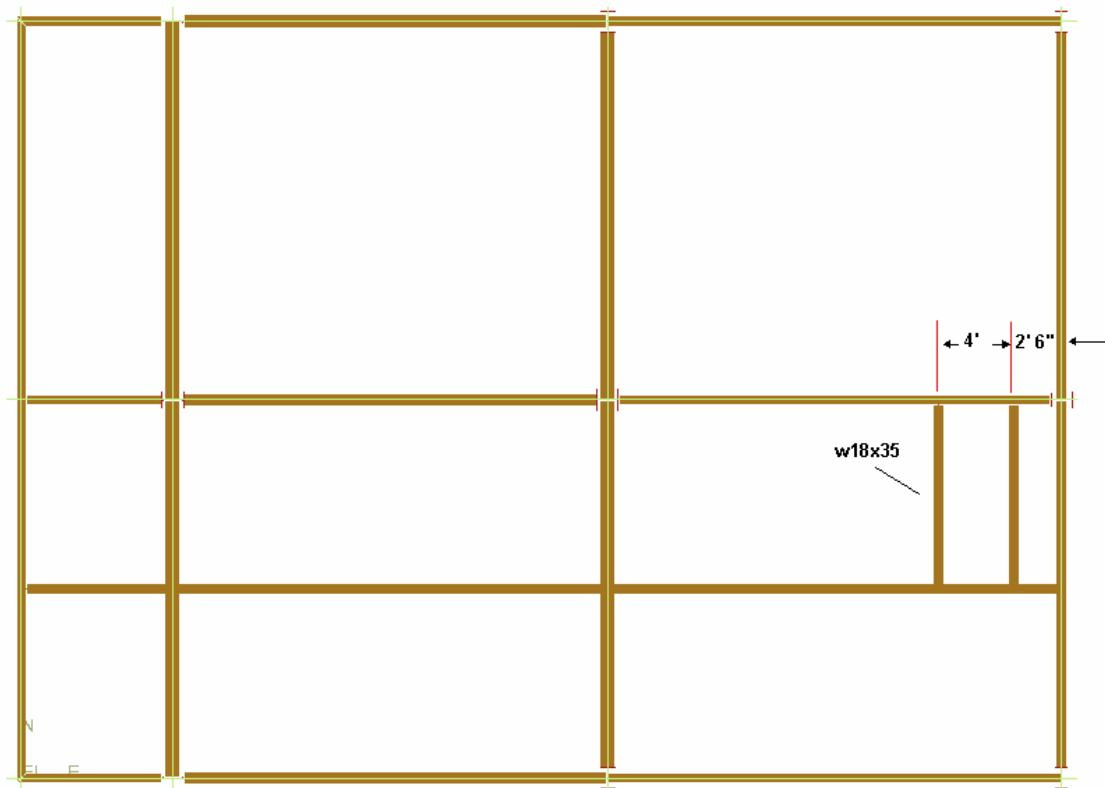

Figure 9 – First Floor Frame El –18' 0"
- 22 Place two horizontal beams on the first floor frame as shown in Figure 9